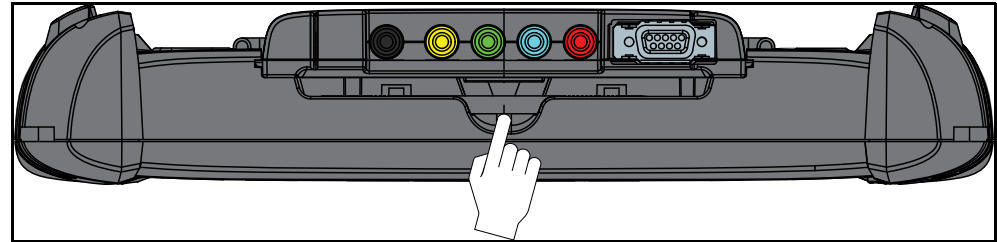

Figure 9-4 Scope Module release tab
1. Depress the Scope Module release tab located on the top of the diagnostic tool (Figure 9-4).